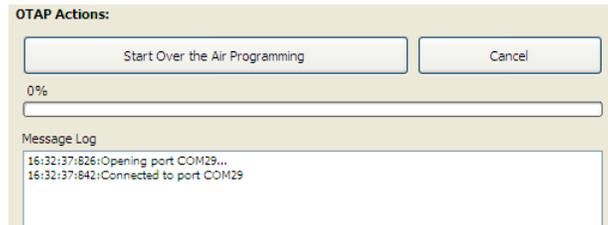

Figure 10-4. Connection to board established
6. Click “Open Serial Port to Server Gateway” to establish the serial USB connection to the Energy Service Portal board. The status of the connection is displayed in the Message Log area as shown in Figure 10-4.